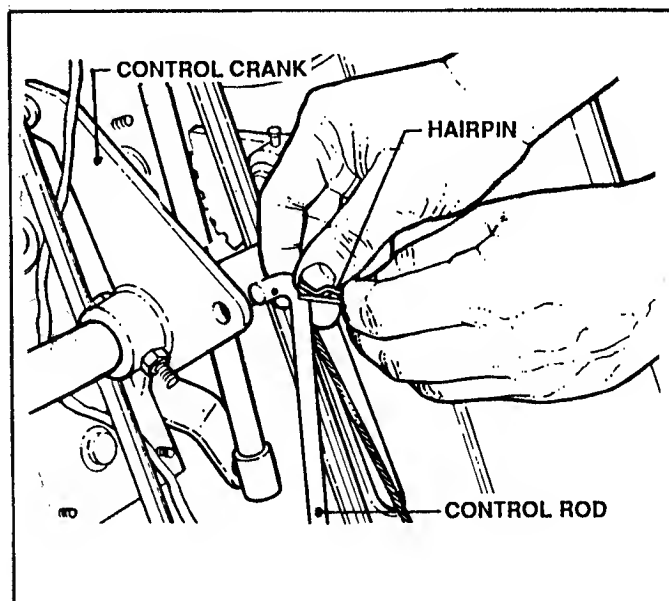

FIGURE 53
7. Remove hairpin from front of CONTROL ROD, then lower CONTROL ROD. See Figure 53.